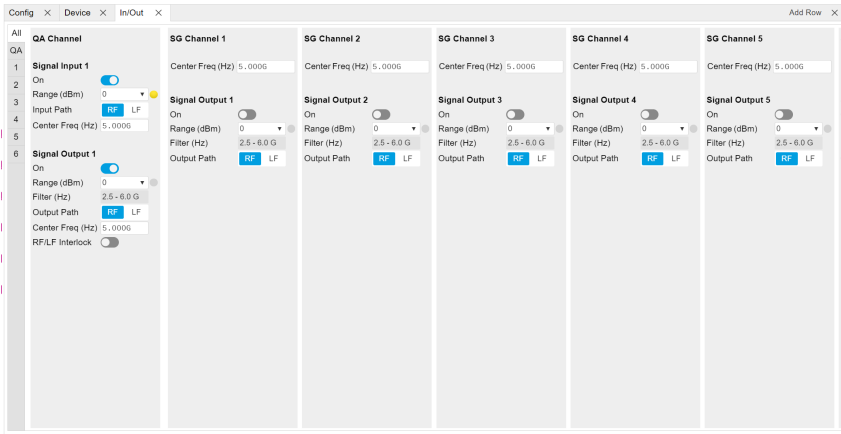

Figure 4.38: Configurations on In/Out Tab.
- Configure these parameters on the Input and Output Tab as in Figure 4.38 and in Table 4.31.